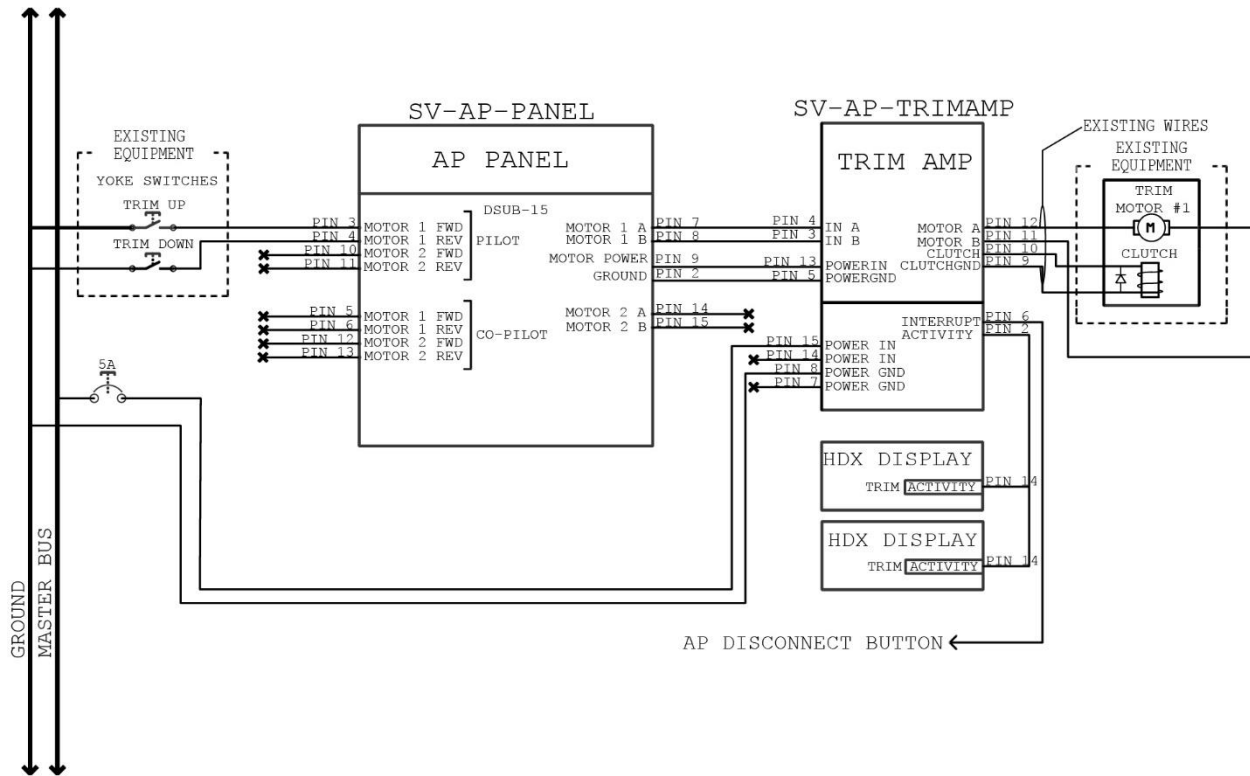

Figure 234 – SV-AP-TRIMAMP Electrical Installation for Motor 1 (Motor 2 Similar)
3. Route SV-AP-TRIMAMP harness as follows (also see Figure 234):
5. Use insulated connectors to connect SV-AP-TRIMAMP harness as follows (also see Figure 234):